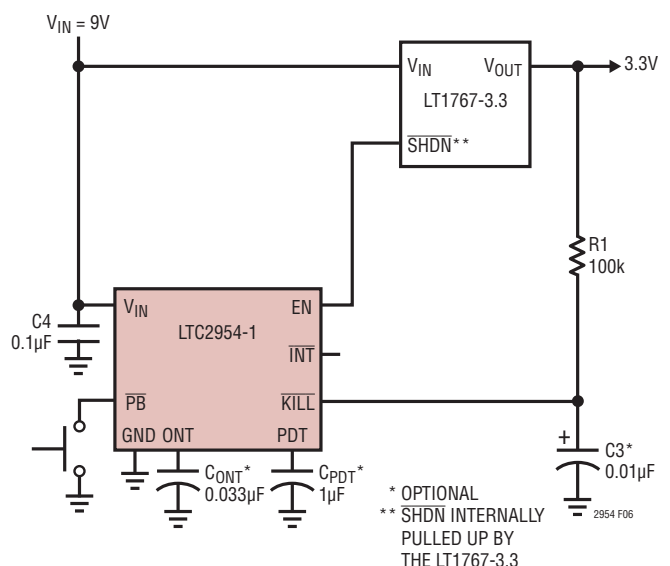

Figure 6. No  $\mu\text{P}$  Application
**$\overline{KILL}$  (Pin 8/Pin 5):** Kill Input. Forcing  $\overline{KILL}$  low releases the enable output. During system turn-on, this pin is blanked by a 512ms internal timer ( $t_{KILL,ON\ BLANK}$ ) to allow the system to pull  $\overline{KILL}$  high. This pin has an accurate 0.6V threshold and can be used as a voltage monitor input. If unused, connect to a low voltage output supply (see Figure 6).
Figure 6 shows how to connect the  $\overline{\text{KILL}}$  pin when there is no circuitry available to drive it. The minimum pulse